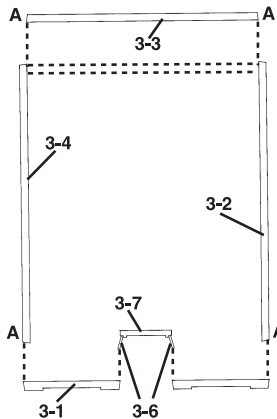

Fig. 2
Wall edges are angled (draft angles) to make removal from mold easier. Draft angles need to be sanded square to allow for proper assembly and a flush fit with adjoining Walls. To square edges, thumbtack a piece of 120-grit sandpaper to a board and draw Wall back and forth evenly on sandpaper until edge is square and level (**Fig. 1**). Edges to be sanded square do not have brick detail and are marked "A" (**Fig. 2**).
2. Glue Side Panels to Entry Door (**Fig. 2 and 4**).